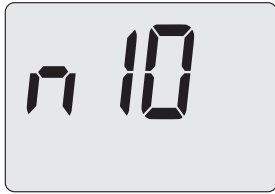

Fig. 2.4
If the pressure reading on the display is below that shown in Fig. 2.4, then the system will require topping up. A filling loop is normally provided by the Installer for this purpose.
- Press button 12 (increase) to scroll through the values until the display shows code **n10** "central heating water pressure" appears on the display and the pressure value 1.3 bar (Fig. 2.4).
- Open the valves on the filling loop and, at the same time, check the heating circuit pressure on the display. The pressure must be between 1 bar and 1.5 bar (e.g. 1.3 bar in (Fig. 2.4).